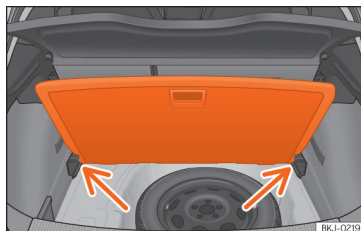

Fig. 119 Variable luggage compartment floor: inclined position.
- Rest the floor on its housings »» Fig. 119 (arrows).